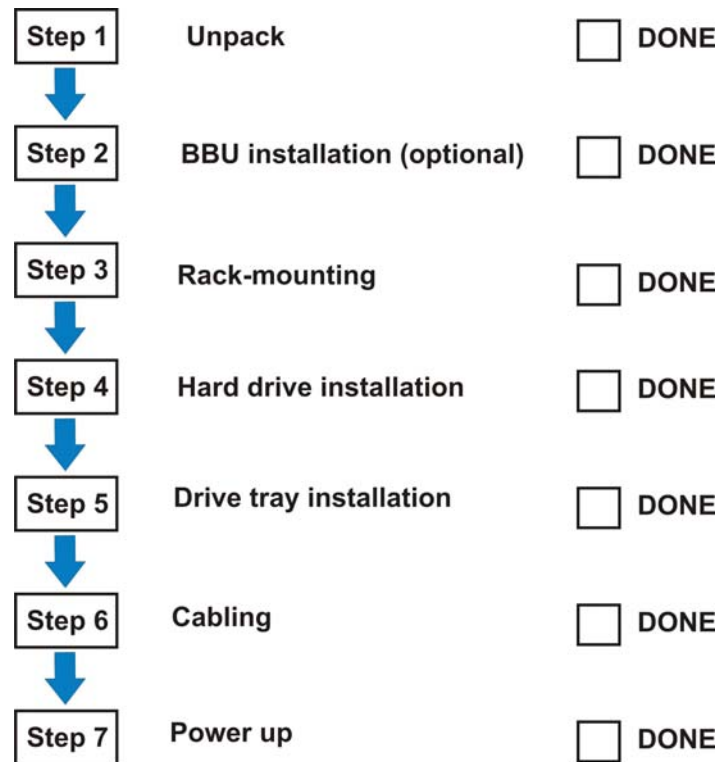

Figure 2-1: Installation Procedure Flowchart
*Figure 2-1* shows a flowchart of the installation procedure. As you complete each step, check off the “Done” box on the right. Please use this flowchart in conjunction with the instructions that follow.